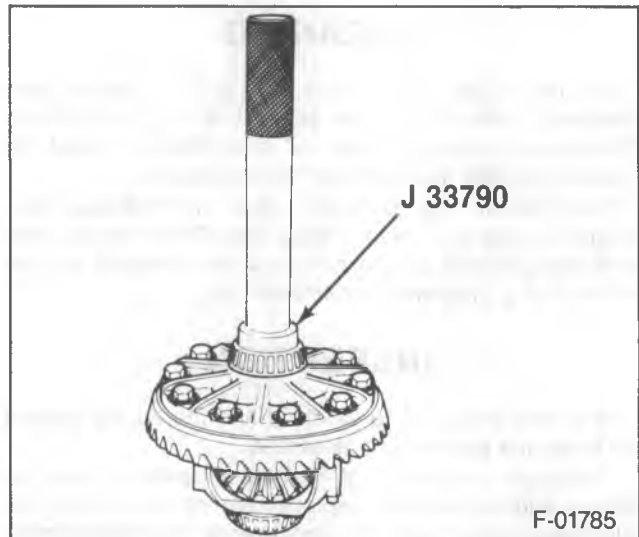

Figure 16—Installing the Differential Side Bearings
- Bolts (34) alternating in progressive steps to 80 N·m (60 ft. lbs.).
- Side bearings (33), using J 33790 (figure 16).